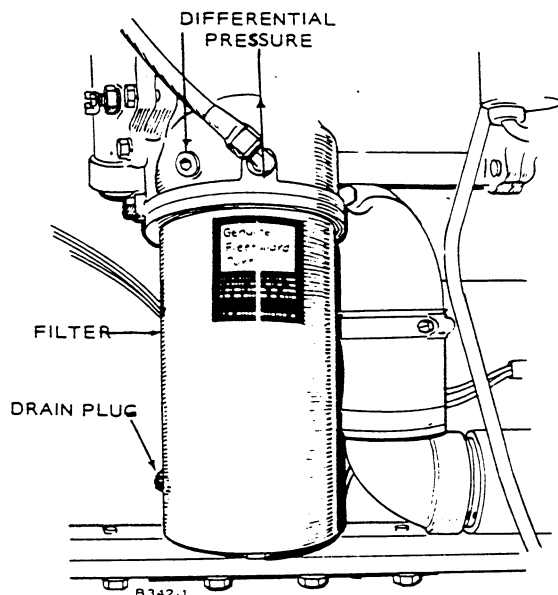

FIGURE 5. OIL FILTER LOCATION
1. Remove drain plug (see Figure 5) and allow oil to drain.